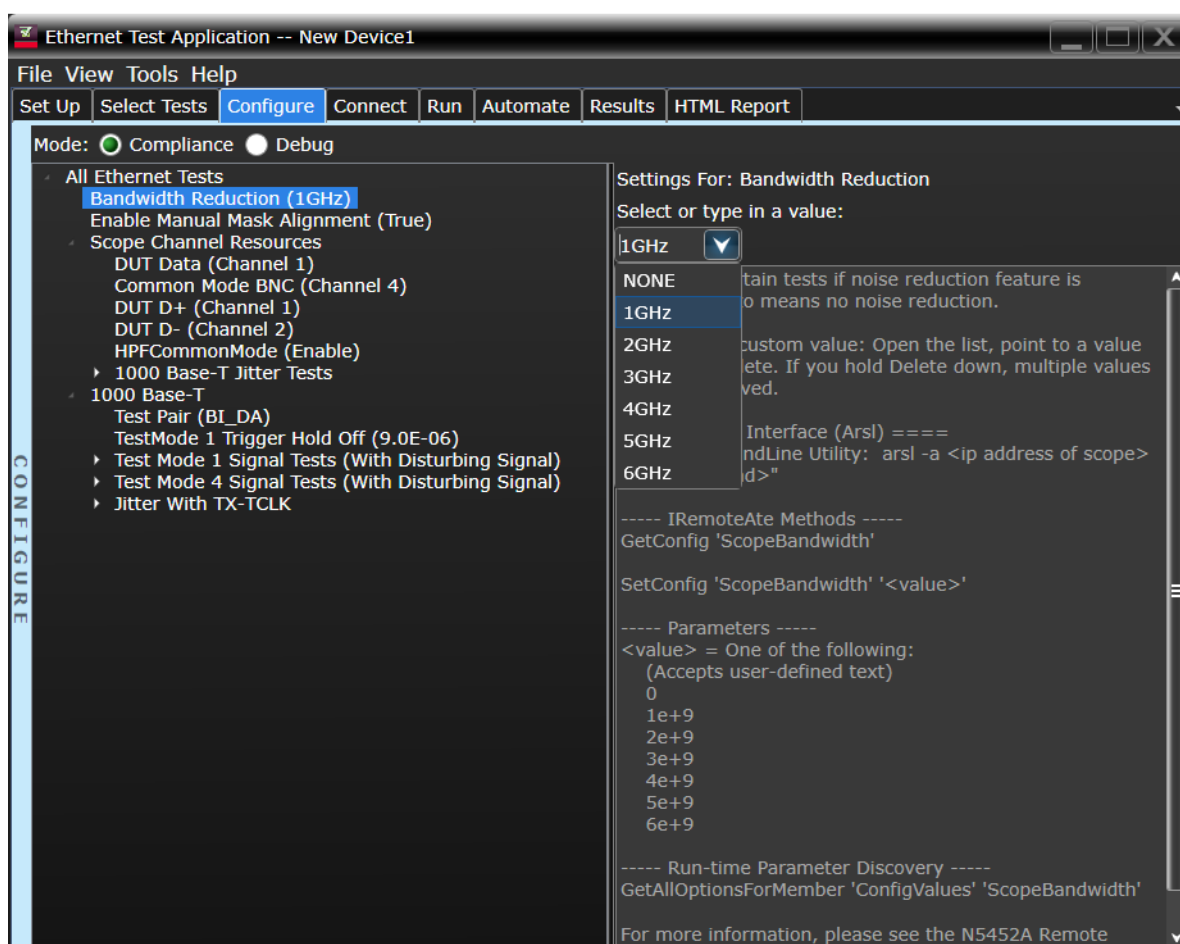

Figure 25 Configuration option for Bandwidth Reduction
- Modify the Bandwidth Limit setting on the Keysight Infiniium Application to match the value configured for the Bandwidth Reduction option in the Ethernet Compliance Test Application (which is set to the default limit of 1 GHz or you may change the value as shown in Figure 25 for performing automated measurements).